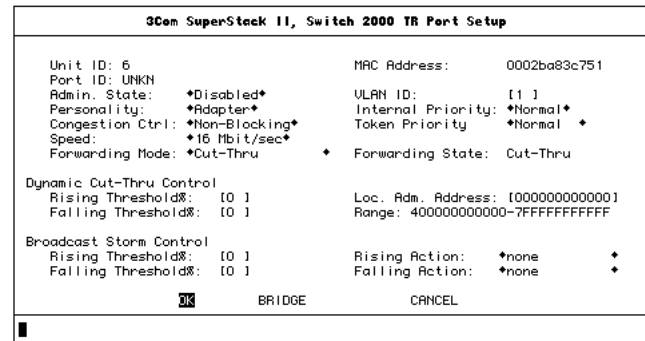

Figure 4-5 TR Port Setup Screen
- 12 Select SETUP. The TR Port Setup screen appears. See Figure 4-5.